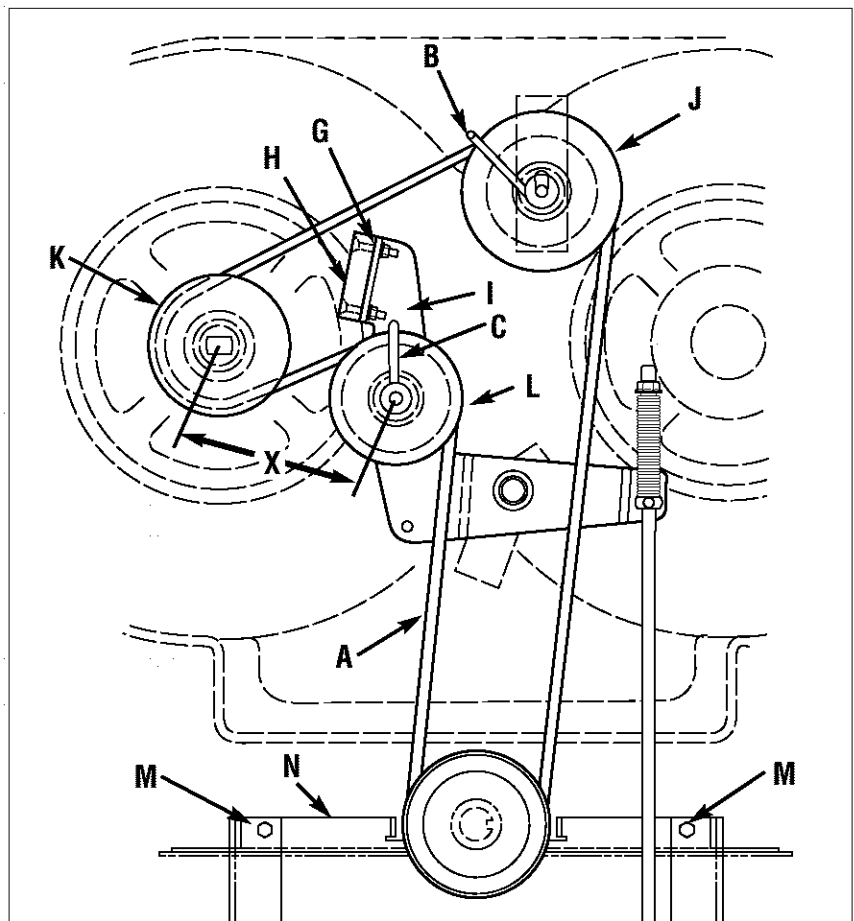

Figure 5-8: Blade drive.
4. Loosen belt guides (B and C, Figure 5-8).
5. Move flap bracket (N, Figure 5-8) out of the way by loosening two screws (M).
6. Remove belt (A, Figure 5-8) from around sheaves.
1. Route belt (A, Figure 5-8) around sheaves as shown.
3. With the Blade Drive Control lever engaged, adjust and tighten belt guide (B) to $1/32 - 1/16$ " away from tensioned belt. (Be sure that belt does not contact belt guide when belt is under tension.) Secure belt guide (C) rotated into position as shown in Figure 5-8.
5. Re-tighten two screws (M, Figure 5-8) that secure flap bracket (N).
3. Remove hardware (G, Figure 5-8) securing blade brake (H).
4. Remove old brake (H) from idler arm (I).
8. Engage the blade drive and measure the distance (X, Figure 5-8) between the centers of pulleys (K) and (L). The distance should be 5-1/2 to 5-5/8". After obtaining the correct dimension, reinstall the belt cover securely and test the operation of the blade brake.